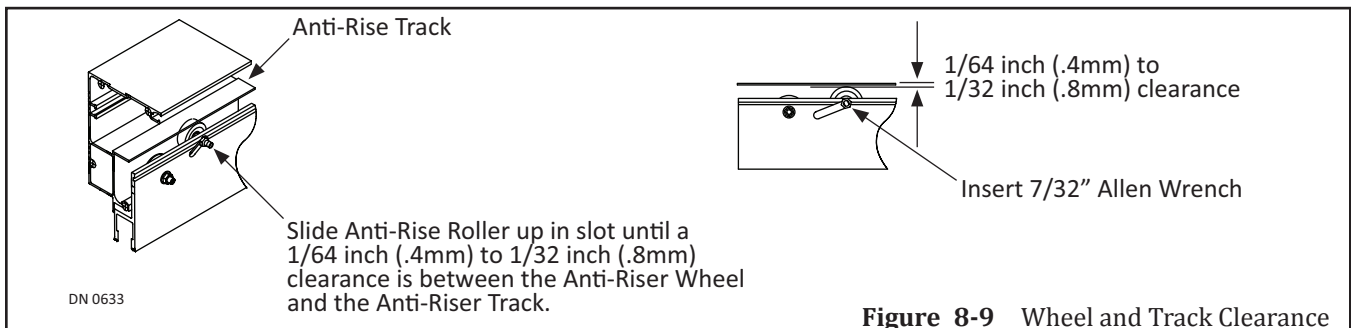

Figure 8-9 Wheel and Track Clearance
6. Loosen (2) Anti-Rise Rollers located towards the middle of the Carrier. Please refer to Figure 8-9.
7. Slide the Anti-Rise Roller up or down within the slot until there is 1/64 inch to 1/32 inch gap between the Roller Wheel and the Top Track. Please see Figure 8-9.